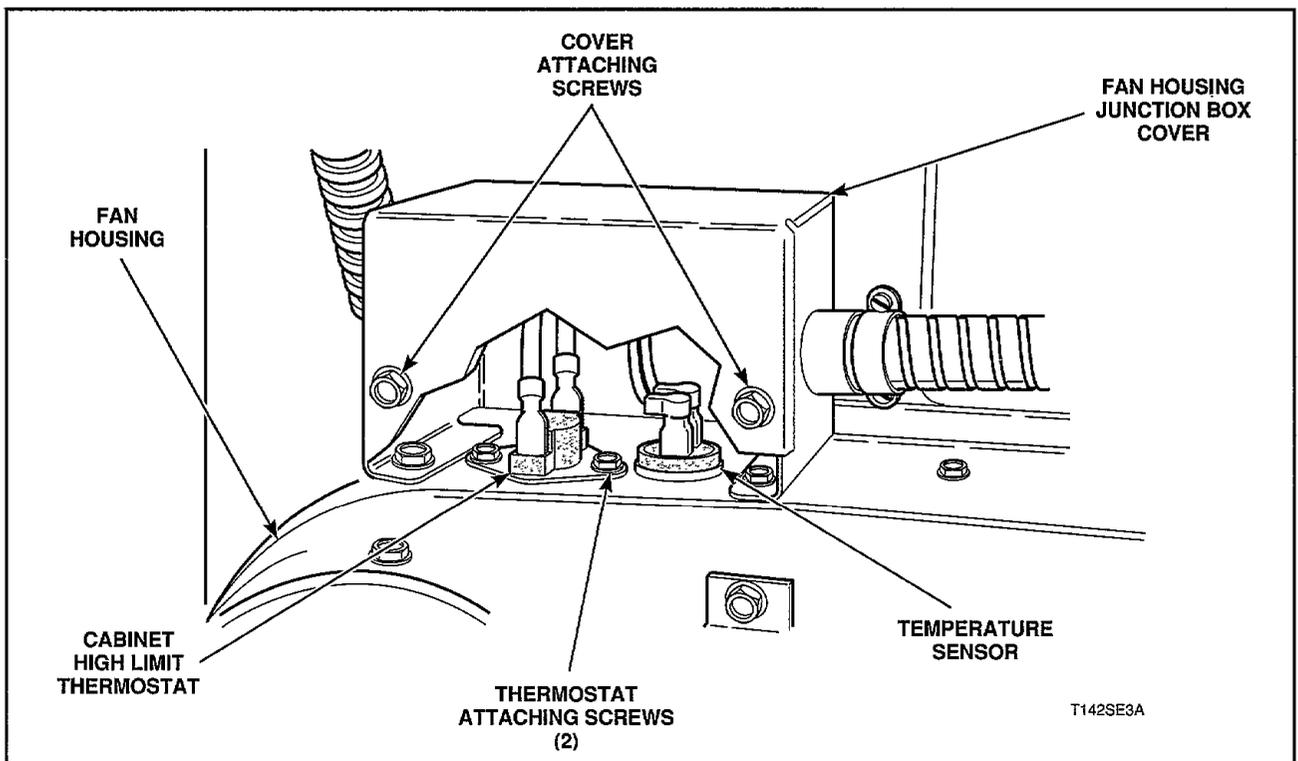

Figure 24
27. TEMPERATURE SENSOR (Figure 24)
28. CABINET HIGH LIMIT THERMOSTAT (Figure 24)